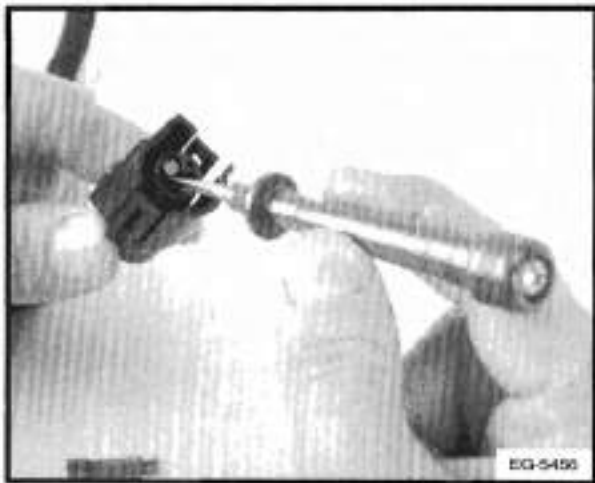

Figure 6-21. - Release Retaining Finger
2. Insert a narrow blade into the connector to lift the retaining finger away from the terminal (Figure 6-21.).